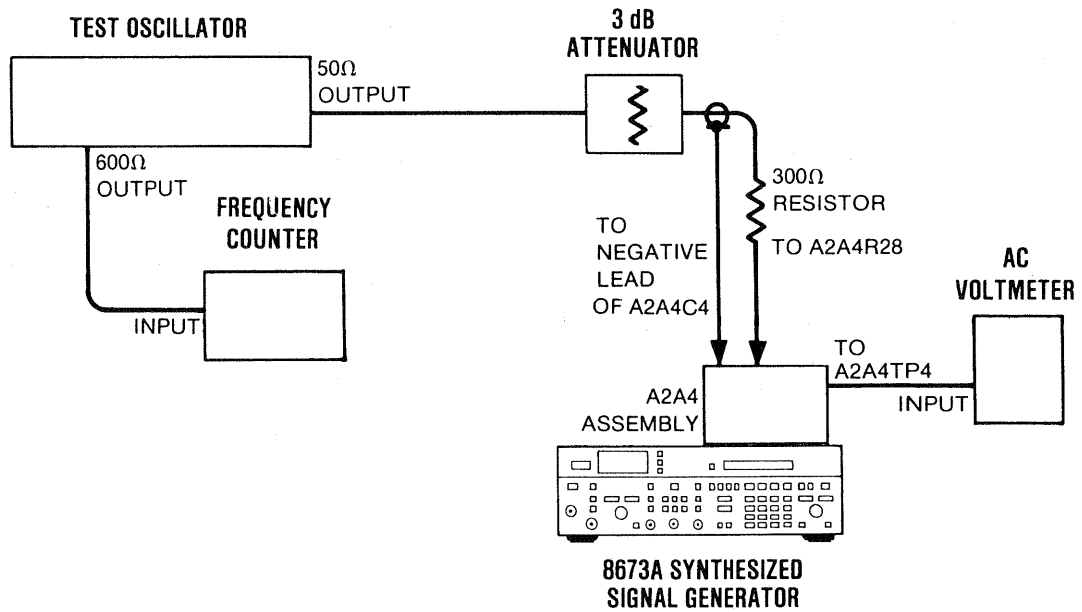

Figure 5-7. LFS Loop Notch Filter Adjustment Test Setup
5. Connect the equipment as shown in Figure 5-7. The leads from the 3 dB attenuator should be as short as possible. Connect the ground wire to the negative side of A2A4C4.